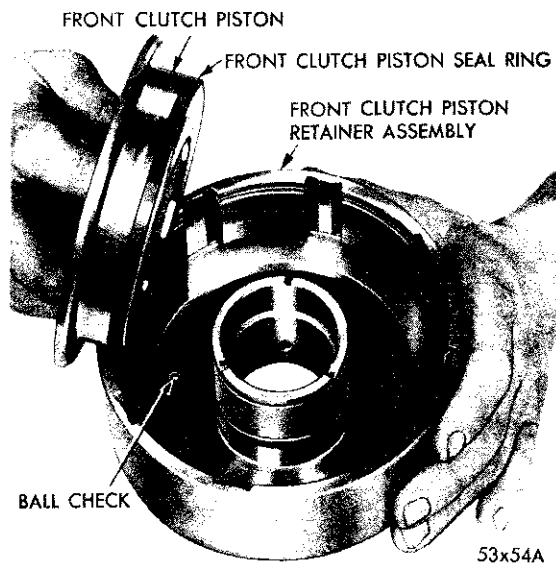

Fig. 114—Removal and Installation of Front Clutch Piston Assembly
Using pliers, Tool C-3301, remove the piston return spring snap ring (H). Release and remove fixture, Tool C-3575. Remove the clutch piston return spring retainer (I) and spring (J). Remove lever retainer (K) and levers (4) (L) from front clutch piston retainer (N). Using a twisting motion, remove the piston assembly from the retainer, as shown in Figure 114.
Place piston assembly (M) in clutch retainer and with a twisting motion, seat piston in bottom of retainer, as shown in Figure 114. Place lever retainer (K) in piston and install the four levers (L). **Make sure levers are free and properly seated in piston slots.**